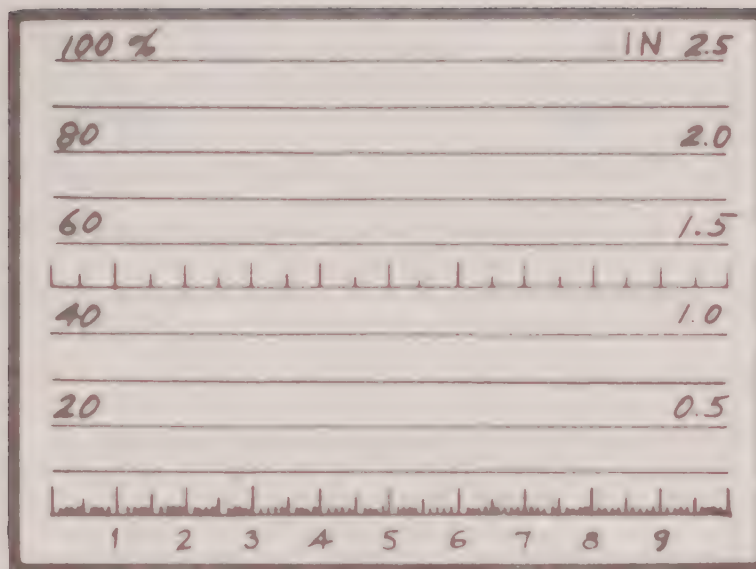

Figure 1-3 UM-771/775 Reflectoscope CRT Screen (Actual Size)
1.4.1.5 A rectangular, 3 x 4 inch high-intensity viewing screen has scribed graticule on the inside face of the cathode ray tube. Since the graticule reference lines are etched on the inside face of the CRT tube glass, parallax waveform errors are kept at a minimum. An outline of the actual size CRT screen is illustrated in Figure 1-3.